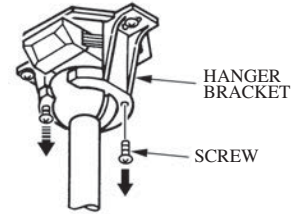

FIG. 9
3. Remove one screw and loosen the other screw from the hanger bracket. (see Fig.9)